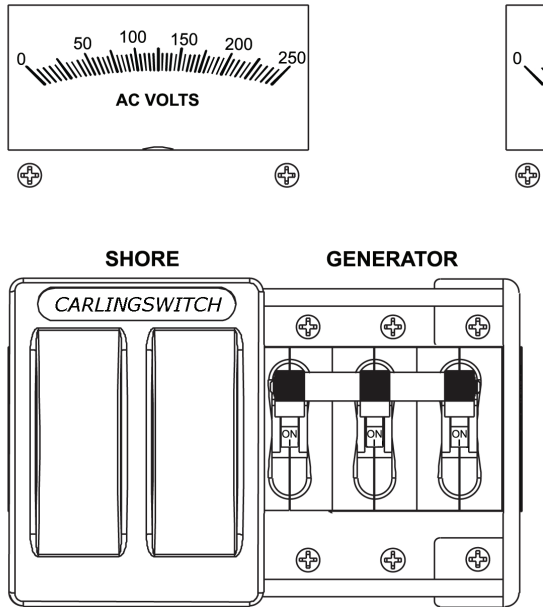

Figure H37: Generator Main Breakers - "ON"
- Turn the generator's main circuit breakers switches to the "ON" position. See Figure H37.